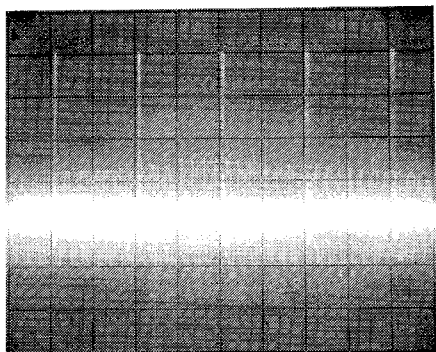
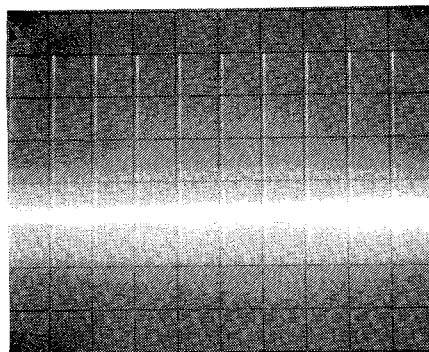

Figure A30-3
Figure A30-4
- (d) The SLMS frequency display should indicate 40,000.000 or 20,000.000. Pressing the $\uparrow$ key alternates between these two display readings. Monitor A30TP5 with an oscilloscope and press the $\uparrow$ key. Check the waveform changes frequency and is typically as shown in the Figure A30-3 and Figure A30-4